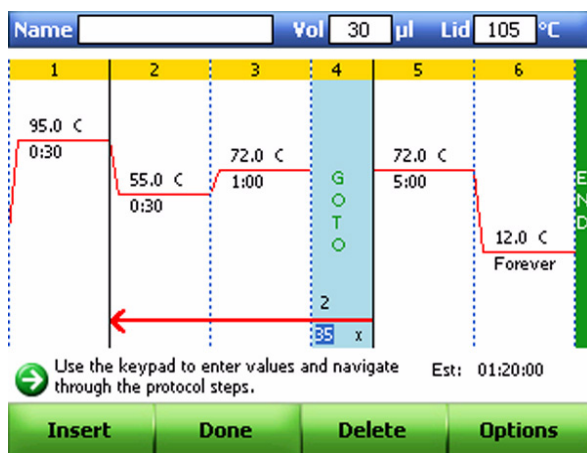

Figure 48. The GOTO loops changed from 34x to 35x.
3. Change the GOTO loop to adjust the number of repeated sets of steps. Figure 48 shows the number of GOTO loops being changed from 34x to 35x.